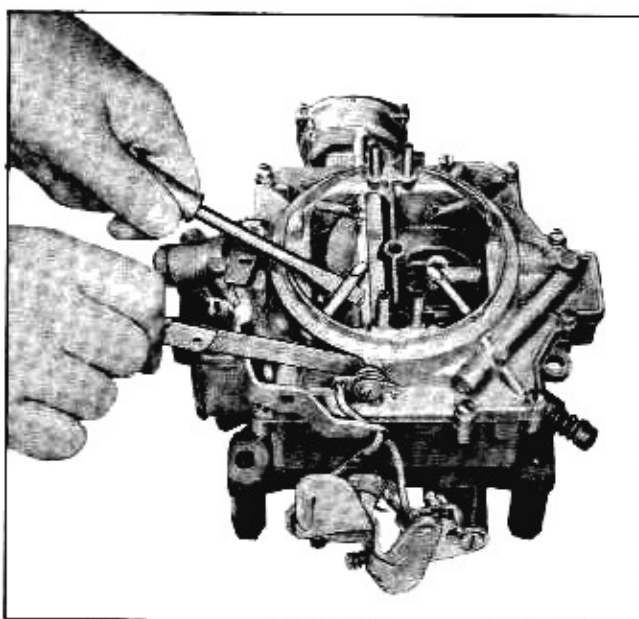

Fig. 6B-84 Checking Clearance Between Choke Valve and Air Horn
FLOAT DROP ADJUSTMENT (FIG. 6B-83)
1. Check the distance between air horn and bottom of float with air horn held in upright position (Fig. 6B-83) with gauge J-9192. The distance between air horn, with gasket installed, and the bottom of the float is $1\frac{3}{4}$ " minimum.